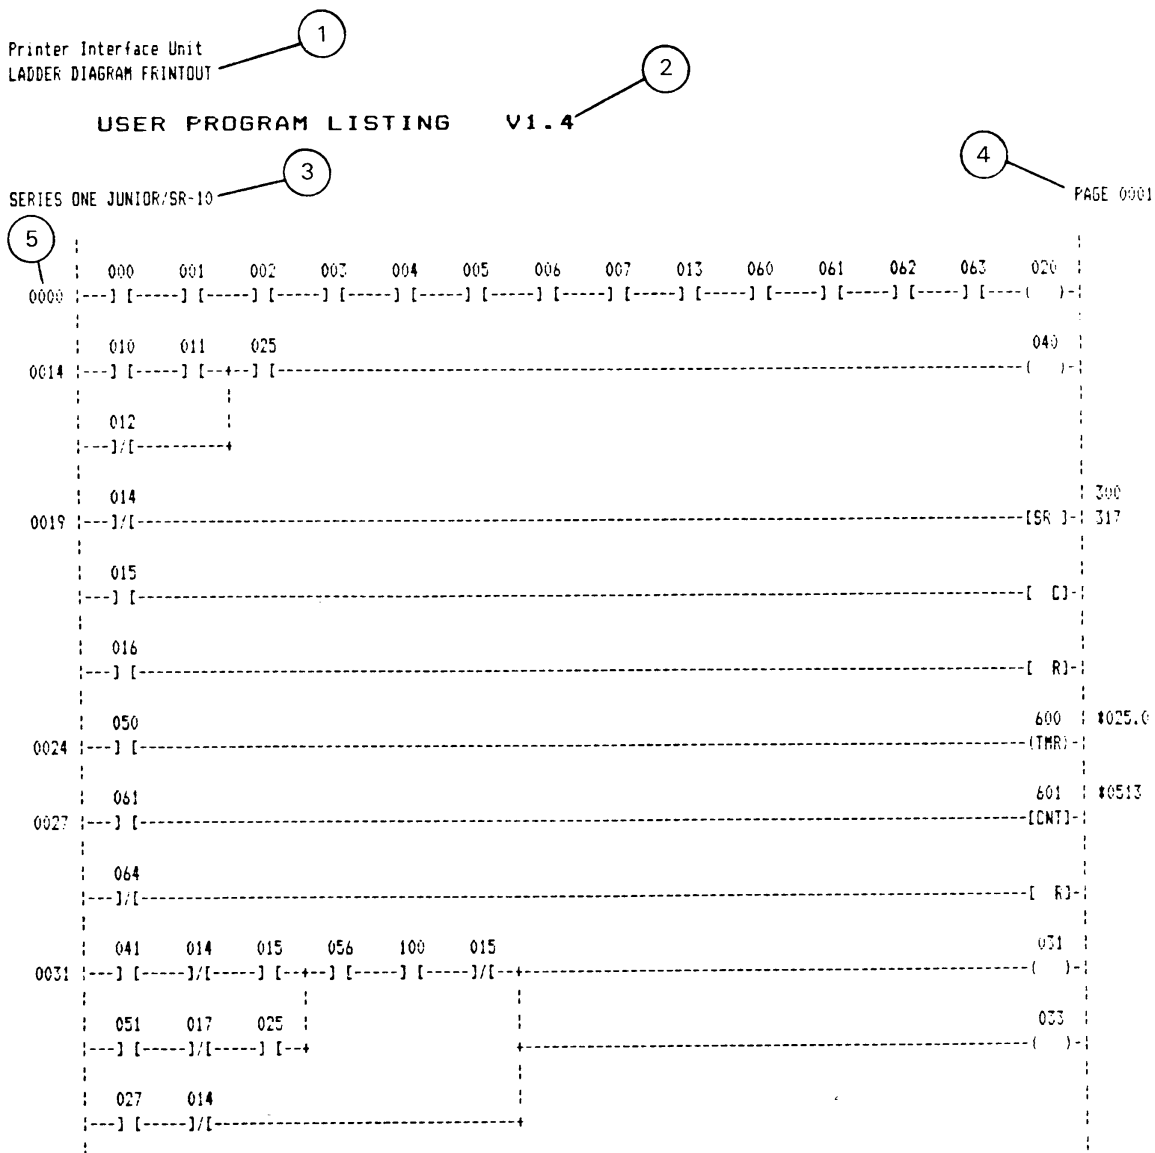

Figure 4.6 SAMPLE LADDER DIAGRAM PRINTOUT
Several items appearing on the printouts in Figures 4.6 and 4.7 are explained for clarification. The ladder diagram printout in Figure 4.6 has a circled number (1-5) next to each annotation, which corresponds to the number preceding the explanation of each annotation. The circled number 6 appears before an annotation on the Boolean printout in Figure 4.7. The circled numbers (1-6) are for discussion purposes only and do not normally appear on a printout.
- ① The type of printout on each page appears on this line, either LADDER DIAGRAM PRINTOUT, BOOLEAN PRINTOUT, or CROSS REFERENCE PRINTOUT.
- ② This annotation, V X.X, is the version of the system operating software contained in PROM memory in the Printer Interface Unit.
- ③ The model of PC selected by the user as the program listing source will be on this line. The annotation will be either SERIES ONE JR/SR-10 for a Series One Junior PC or SERIES ONE/SR-20 for a Series One PC.
- ④ The page number of the ladder diagram printout or Boolean printout will appear here as a 4-digit decimal number, starting with PAGE 0001.
- ⑤ Refers to ladder diagram printout only. This 4-digit decimal number is the user program memory address at the start of each rung of logic. The first element in the rung is stored at that address. In the example in Figure 4.6, the memory address of the start of the first rung is 0000. The first element in that rung is a normally open contact referenced as 000 (reference number is printed directly above the contact). The memory address at the start of the second rung is 0014, the first element in this rung is a normally open contact referenced as 010.